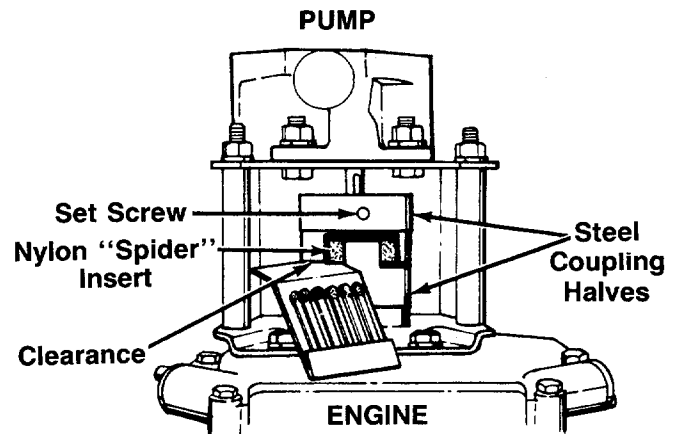

FIGURE 16.—Bottom View
7. Adjust the two coupling halves (steel) so there is between .010" and .060" clearance between the two halves (at least the thickness of a matchbook cover, up to 1/16" maximum). See figure 16. Tighten the set screw in the coupling half on the pump shaft.